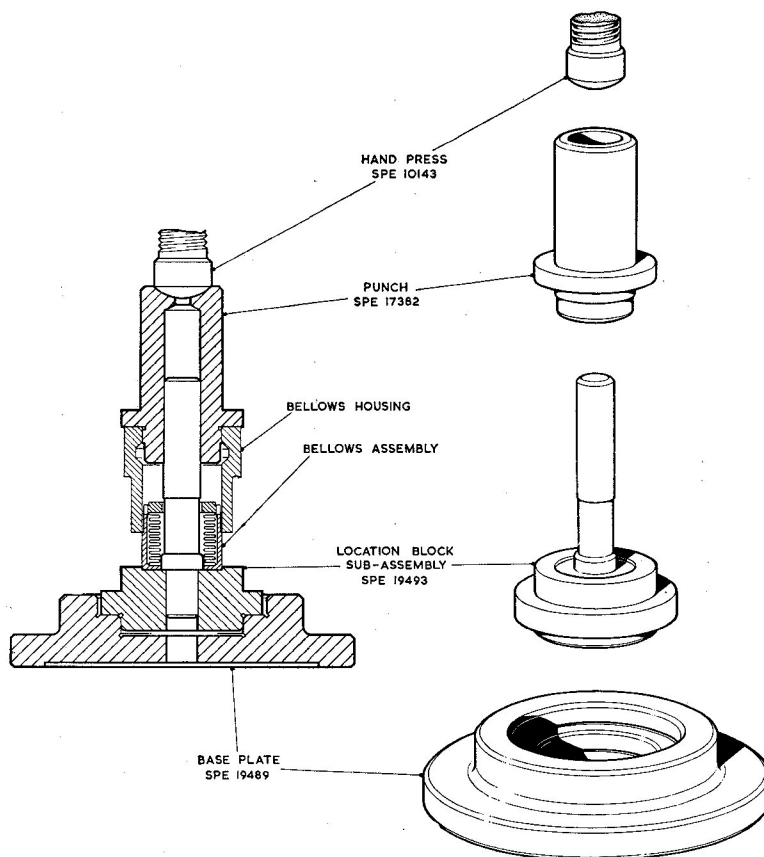

Fig. 20. Assembly of the bellows gland to housing
- (1) Pre-heat the bellows gland housing (200) to between 125 and 150 deg.C. then smear the grooves in the housing with Hermeticoll jointing compound.
- (2) Use the special tools illustrated in fig. 20 and press the gland into the housing. The top face of the bellows shroud must be 0.5 mm. above the top surface of the housing.